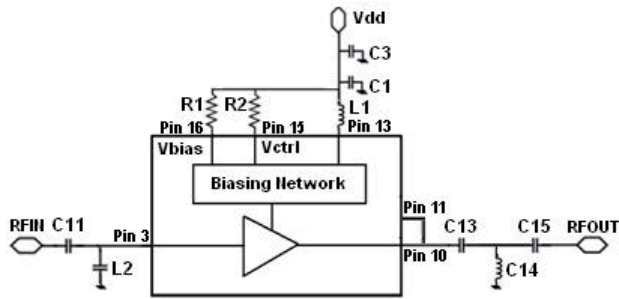

Figure 46. Circuit Diagram
1. Vbias and Vctrl can be externally controlled by change external biasing resistors R1 = Rbias and R2 = Rctrl (as shown in Fig. 46).
1. V_{bias} and V_{ctrl} can be externally controlled by change external biasing resistors $R1 = R_{bias}$ and $R2 = R_{ctrl}$ (as shown in Fig. 46).